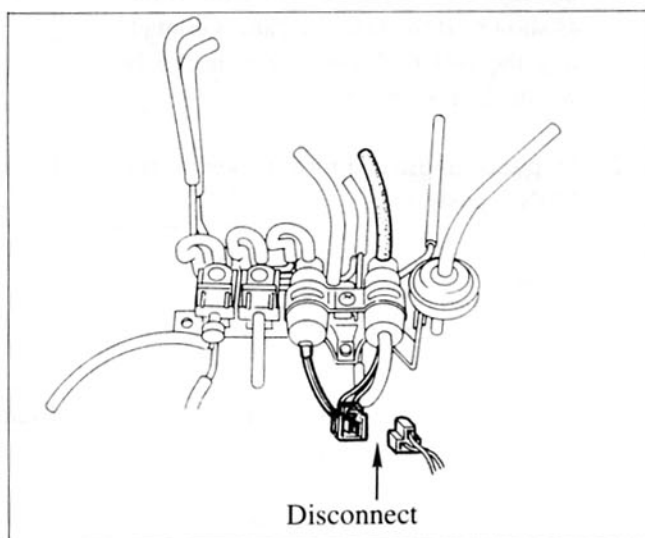

Figure 4
5. Disconnect the connector for the vent and vacuum solenoid valves. Turn all accessories off. (Figure 4)